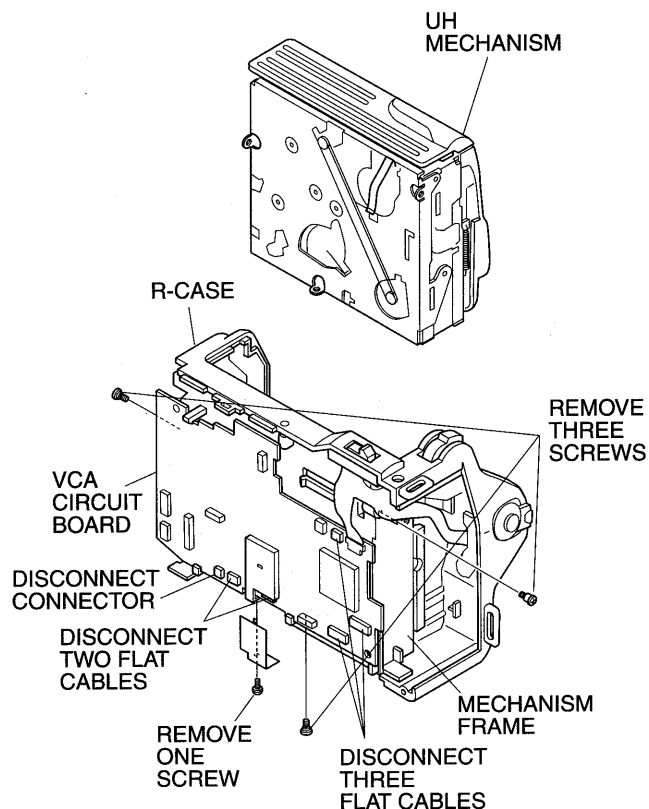

Fig. 3-2
- (4) Disconnect 3 flat cables. (See Fig. 3-2)
- (5) Disconnect connector. (See Fig. 3-2)
- (6) Remove 1 screw holding the head shield. (See Fig. 3-2)
- (7) Disconnect 2 flat cables. (See Fig. 3-2)
- (8) Remove 3 screws. (See Fig. 3-2)
- (9) Remove the UH mechanism in the direction of the arrow from the r-case. (See Fig. 3-2)